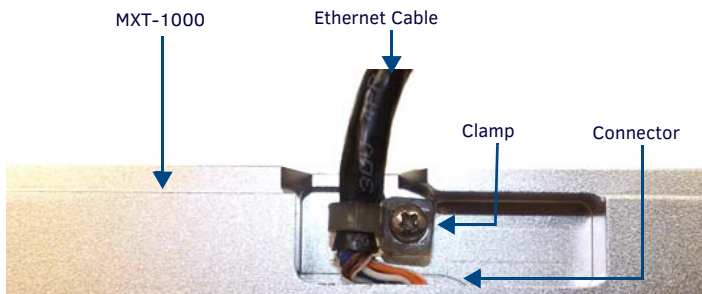

FIG. 2 TOUCH PANEL BOTTOM, DISPLAYING THE ETHERNET CABLE.
2. Remove the clamp holding the Ethernet cable (FIG. 2) until the Ethernet cable moves freely.